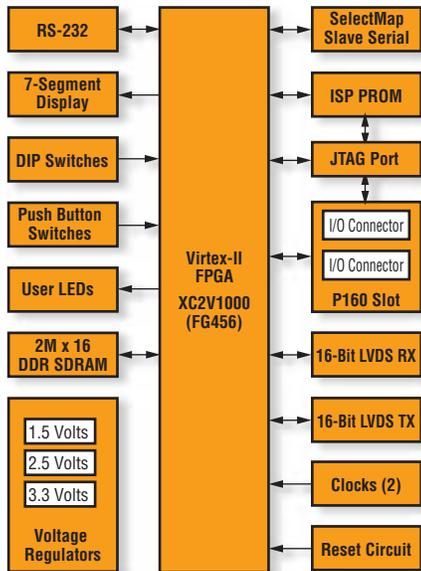

Figure 1 - Virtex-II system board block diagram
- The Virtex-II platform is based on the one million-gate XC2V1000 device (Figure 1). The system board includes 2M x 16 DDR SDRAM and a 16-bit LVDS Tx/Rx port.